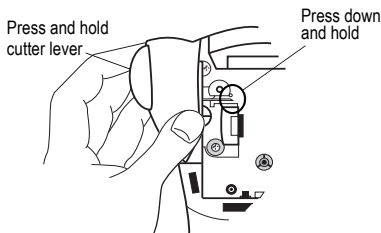

Figure 13
2. Place the tip of a ball-point pen or pencil on the L-shaped piece as shown in Figure 13, and press the piece down.